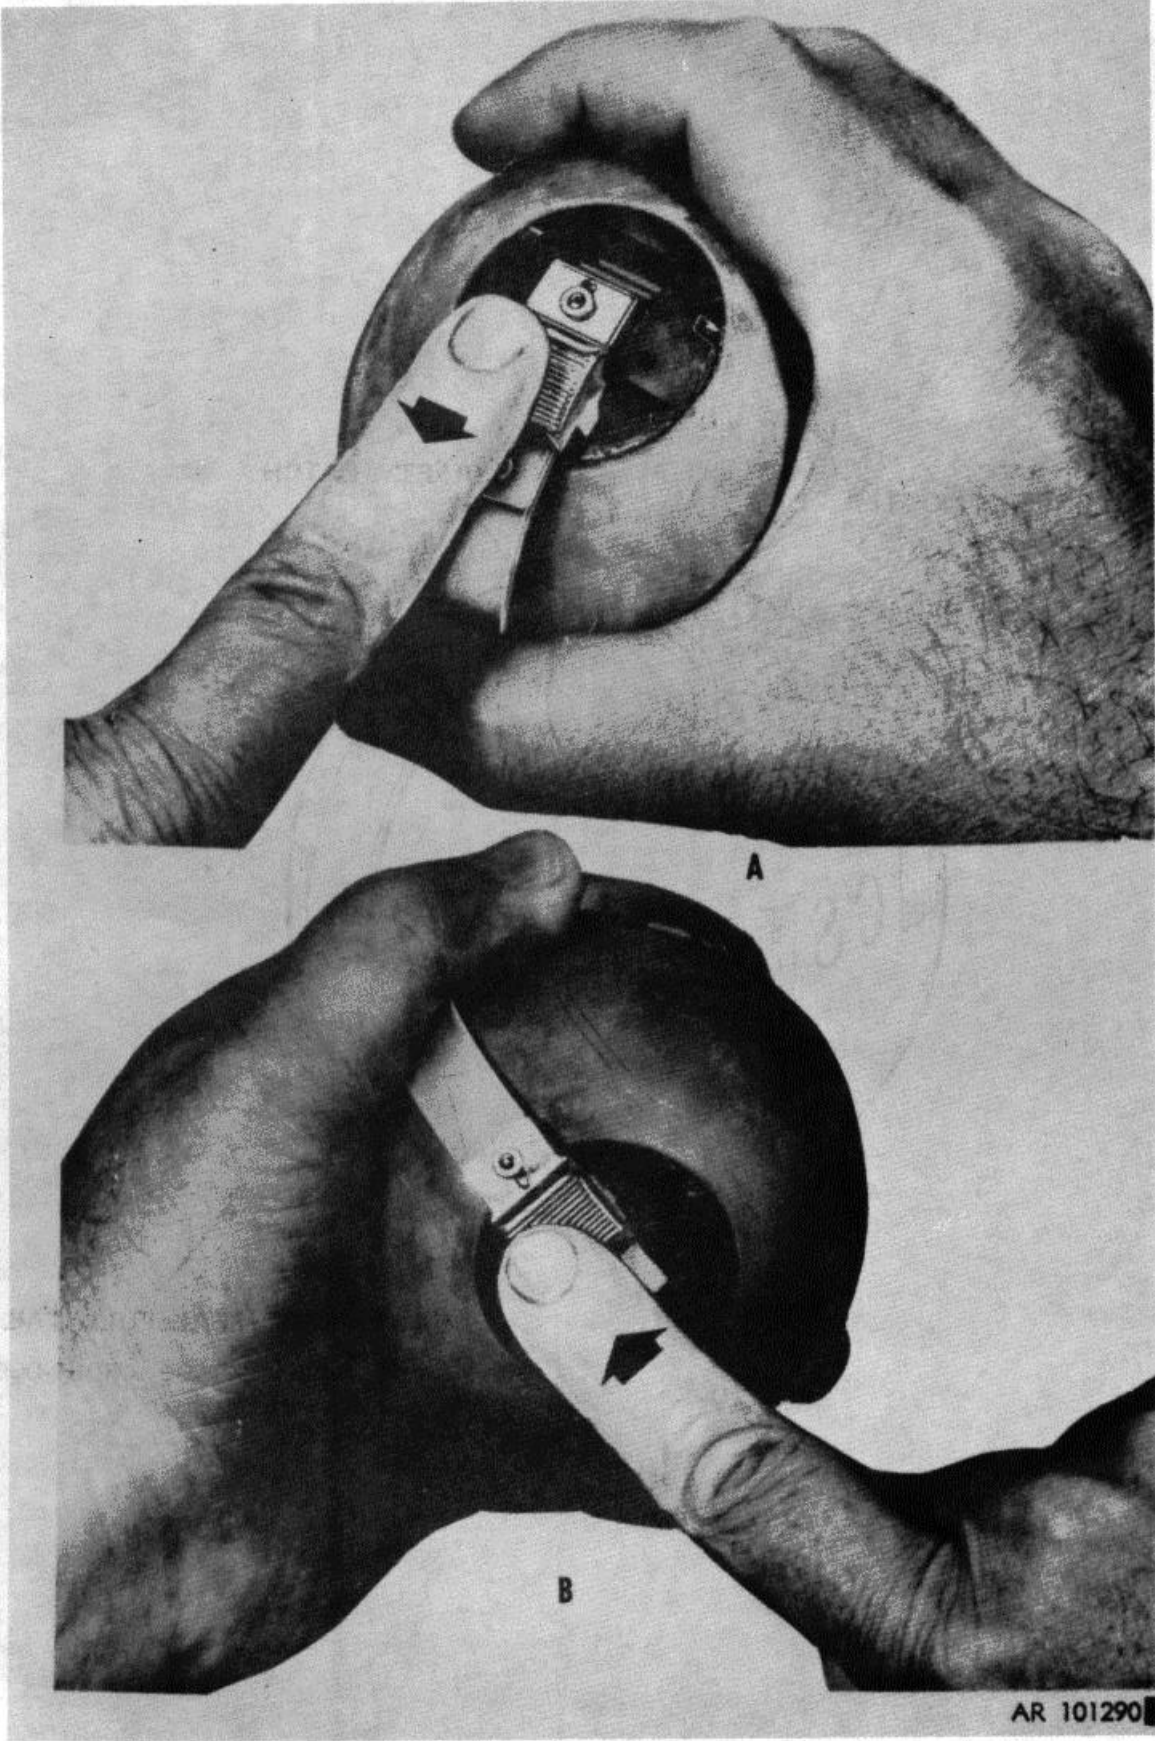

Figure 1-3. Pushing safety latch to armed position (A, righthanded thrower; B, left-handed thrower).
(2) *Grenades M47 (fig. 1-2) and M48.* Grenade fuze M227 is restrained from functioning by the safety cotter pin, sliding safety latch, and handle. The exhaust port seal is removed and discarded immediately before pulling the safety cotter pin. When the safety cotter pin is removed and the safety latch is pushed rearward (fig. 1-3) from the lock pin, the handle is unlocked and the GRENADE IS ARMED. Releasing the handle causes the arming pin spring to eject the arming pin. This releases the firing pin, allowing the firing pin to activate the primer. The primer ignites the first-fire mixture, which flashes and ignites the delay mixture. This, in turn, ignites the ignition mixture. The ignition mixture burns through an aluminum foil shield on the bottom of the fuze and ignites the granulated CS pyrotechnic mixture in the grenade body. The burning mixture builds up pressure and opens the tape covering the exhaust port. This pressure also forces release of CS from the grenade, while jet action causes the grenade to move quickly and erratically along the ground. The M48 functions in the same manner as the M47, except that the M48 emits red smoke.